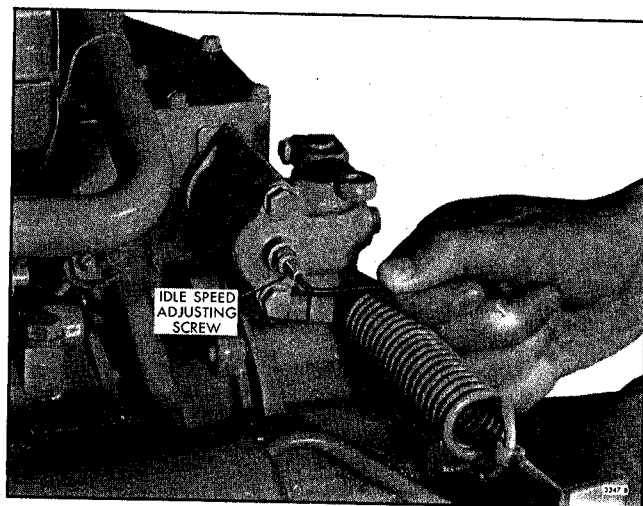

Fig. 19 - Adjusting Idle Speed
2. With the engine operating, loosen the lock nut and turn the idle speed adjusting screw (Fig. 19) in or out until the engine idles at the recommended idle speed. The recommended idle speed is 550 rpm, but may vary with special engine applications.